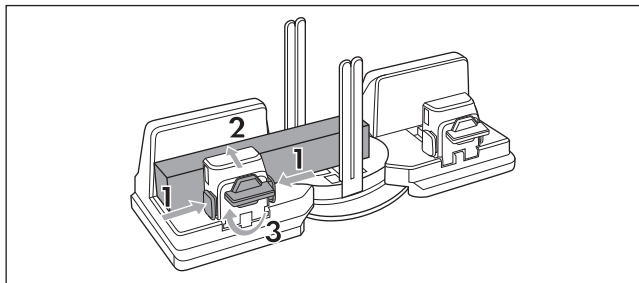

Fig. 6
- ◆ Place the wooden workpiece between the retaining jaw **3** and the tensioning clamp **2**. Make sure that the wooden workpiece is guided past the guide rods **7** (see fig. 6).
- ◆ Hold down the release buttons **4** and push the tensioning clamp **2** onto the wooden workpiece. Let go of the release buttons **4** once the wooden workpiece is clamped (see fig. 6).
- ◆ Turn the locking button **5** clockwise to fix the wooden workpiece in place (see fig. 6).